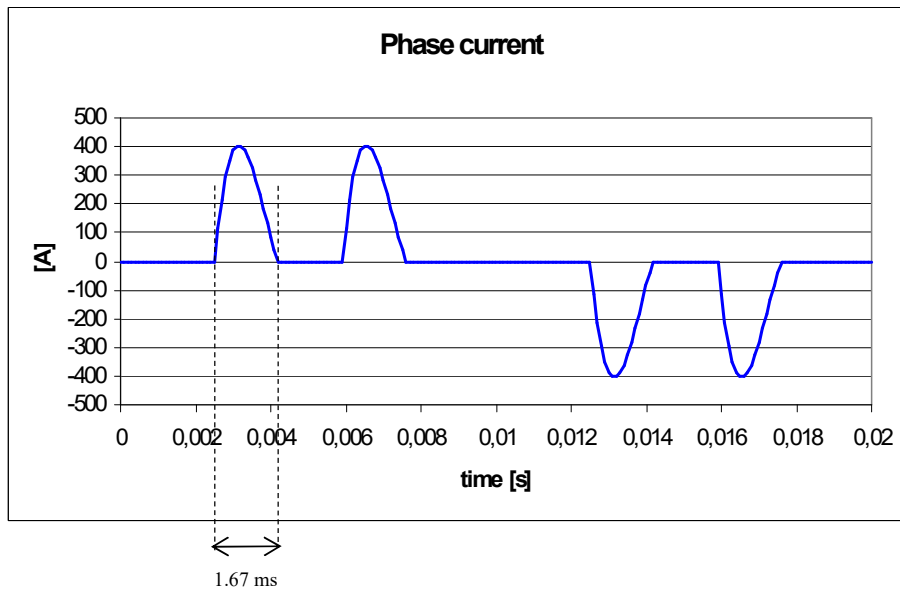

Figure 1
- c) Calculate the rms-current and the average current through one rectifying diode (see figure 1). Calculate the rectifier diode losses. The diode threshold voltage is 1.0 V and the differential resistance is 2.0 mohm. (2 p.)